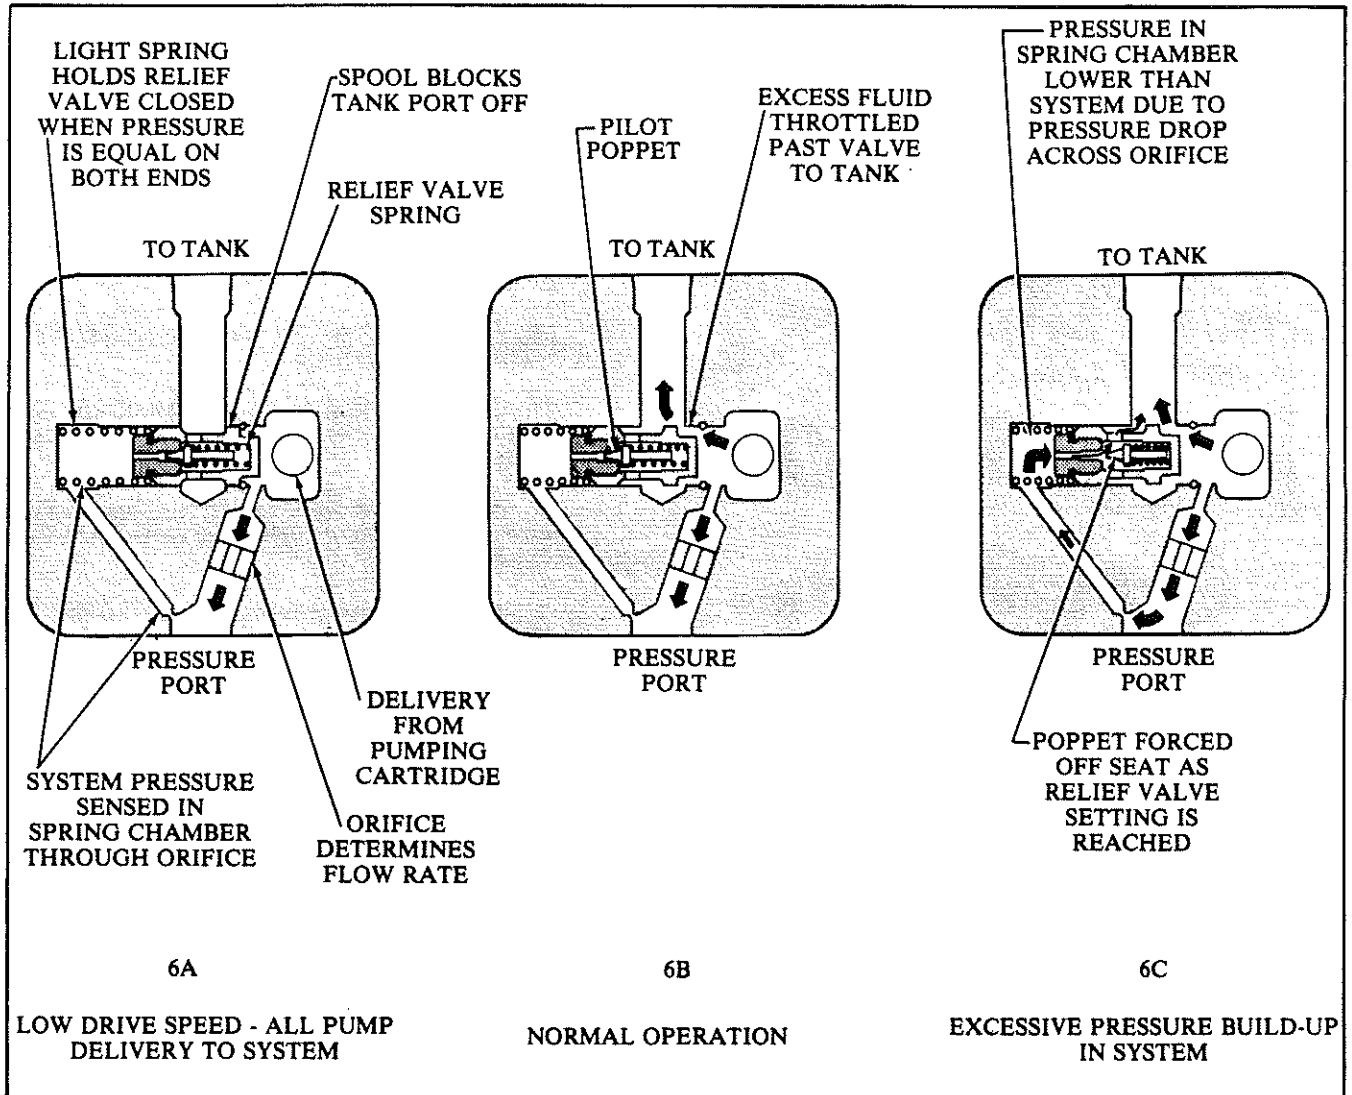

Figure 6. Flow Control Relief Valve Operation
1. Maximum flow to the operating circuit and maximum system pressure are determined by the integral flow control and relief valve subassembly in a special outlet cover used on pumps in this series. This feature is illustrated pictorially in Figure 6. An orifice in the cover limits maximum flow. A pilot-operated type relief valve shifts to divert excess fluid delivery to tank, thus limiting the system pressure to a predetermined maximum.